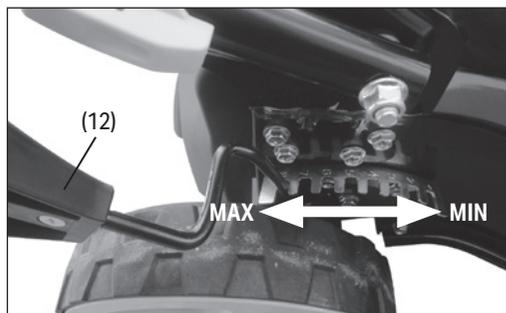

Fig.9
7.1 Adjusting the Grass Cutting Height (Fig.9)